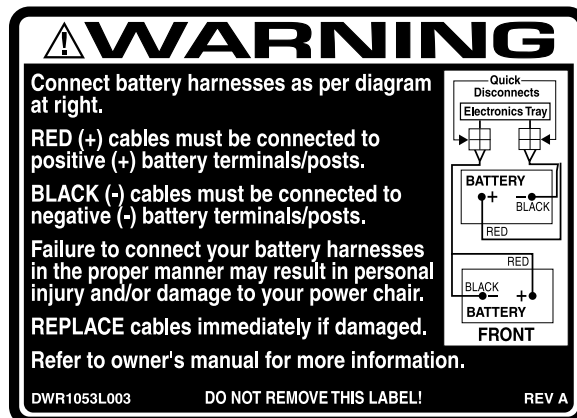

Figure 16. Battery Wiring Diagram
- Check all electrical connections. Make sure they are tight and are not corroded. Batteries must sit flat within the battery well, with the battery terminals facing inward, toward each other. Refer to the frame decal for the correct wiring layout. See figure 16.
11. Place the batteries in the power base. Make sure that the terminals are facing the correct direction. See figure 16.